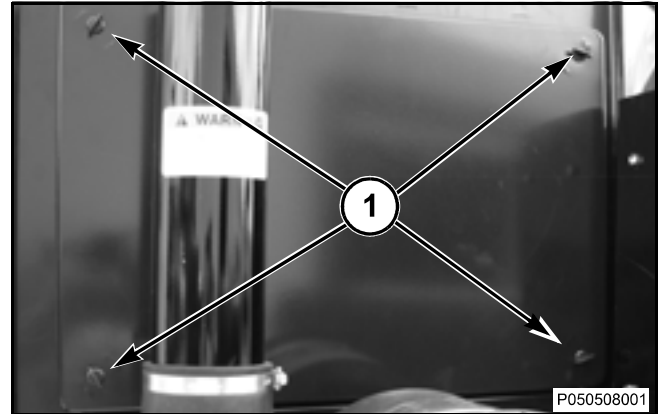

FIG. 1
FIG. 1: Power distribution center is located on right-hand side of cab. To gain access to components located here, loosen four thumb screws (1) from corners of cover.